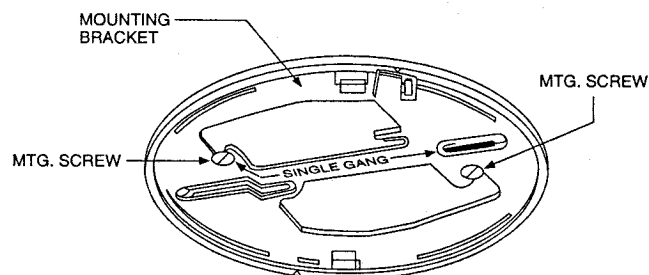

Figure B.2. Mounting Bracket
1. Remove the detector's mounting bracket to screw bracket onto mounting surface. (See Figure B.2.)